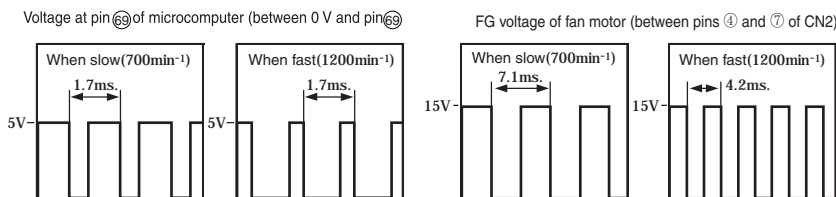

Fig. 3-2
- The VS receives a command voltage from the microcomputer. The VS terminal undergoes an analog voltage that matches the Lo level time ratio of the pulse signal from pin ④ of the microcomputer. (See Fig. 3-2.)